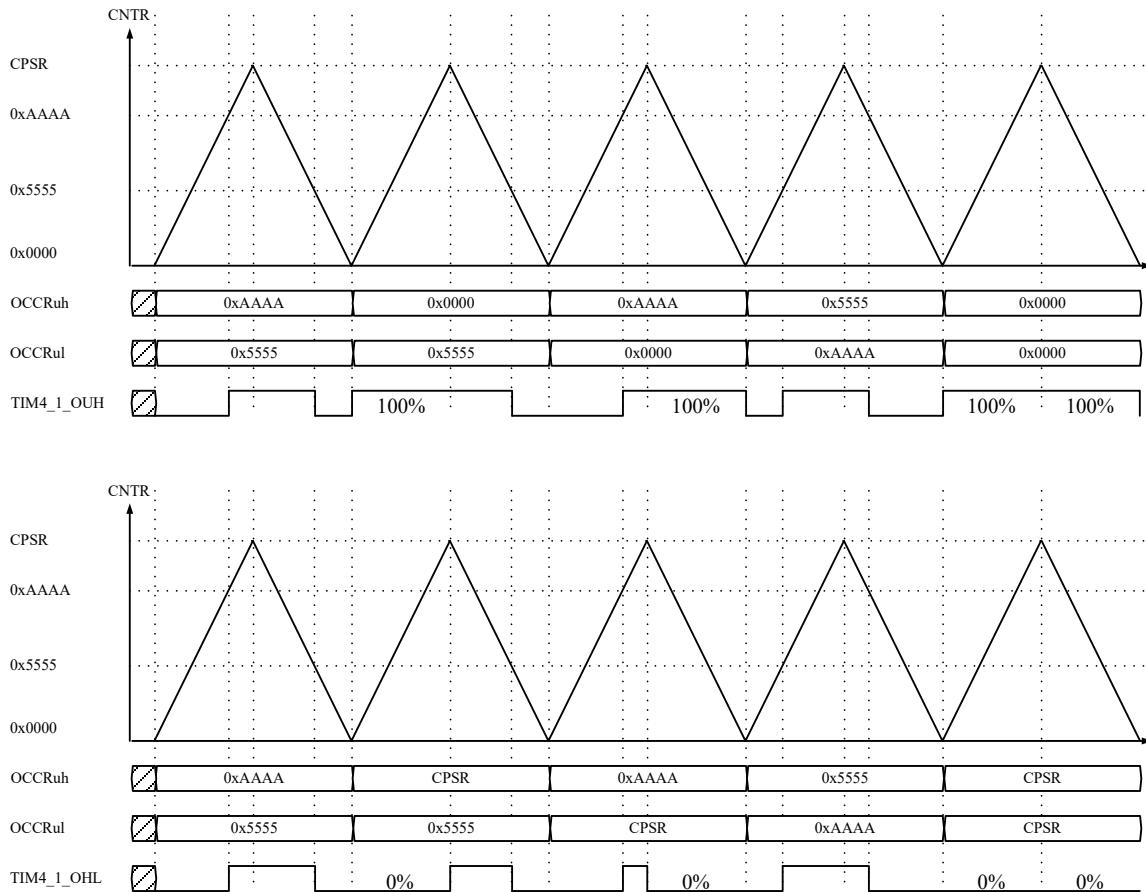

Figure 22-7 Triangular wave mode waveform output example
- Figure 22-7 is an example of the waveform output of the compare output module in the triangular wave mode.